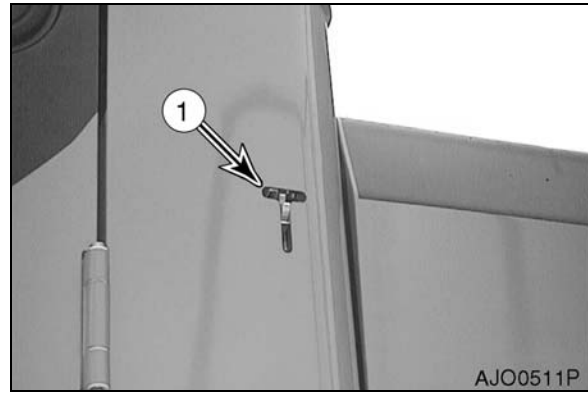

Figure 102
1. The door side latch (1, Figure 102) is used to secure the door to the side of the cab when it is opened.